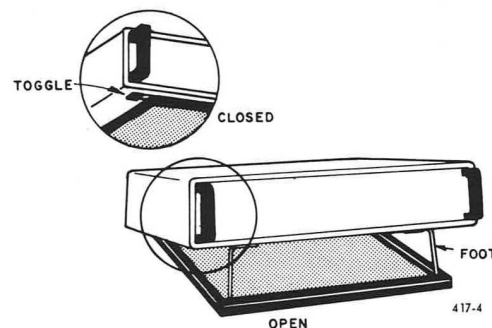

Figure 2-2. Type 1952 Bench Model Positioning.
- Place the right thumb on the right-hand release toggle and the left thumb on the left-hand release toggle (Figure 2-2).